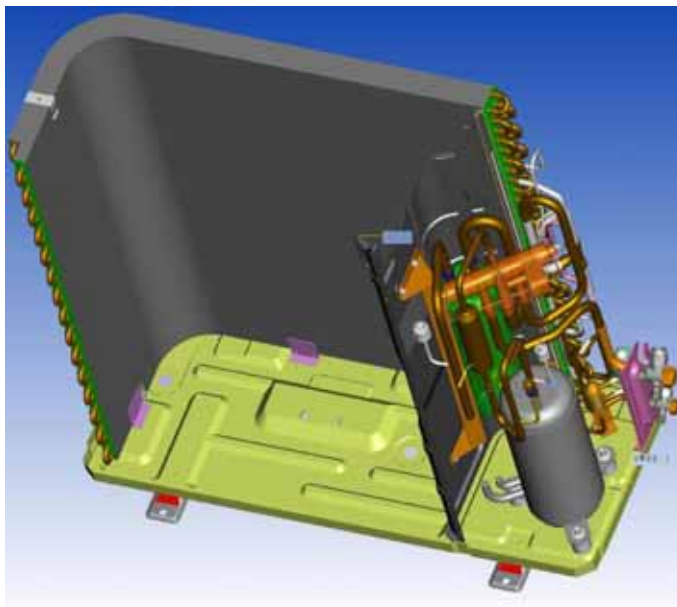

Fig.11
- Remove the 4-way valve. **[See Fig.11]**